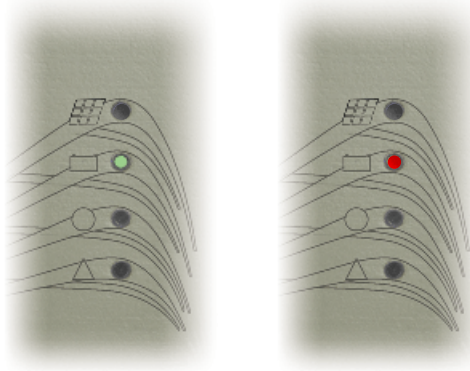

Figure 51 Status Indicator
At the end of the file transfer the FLEXmax 100 **STATUS** LED indicator will flash green rapidly. It will change to flashing red slowly, then flash red more quickly. See Figure 51 (on the next page) or page 29.
9. Still pressing the **RESET** button, watch the LED indicators on the FLEXmax 100. (See Figure 51.) When the **STATUS** LED indicator flashes green rapidly, the programming process has started. It is safe to release the button.